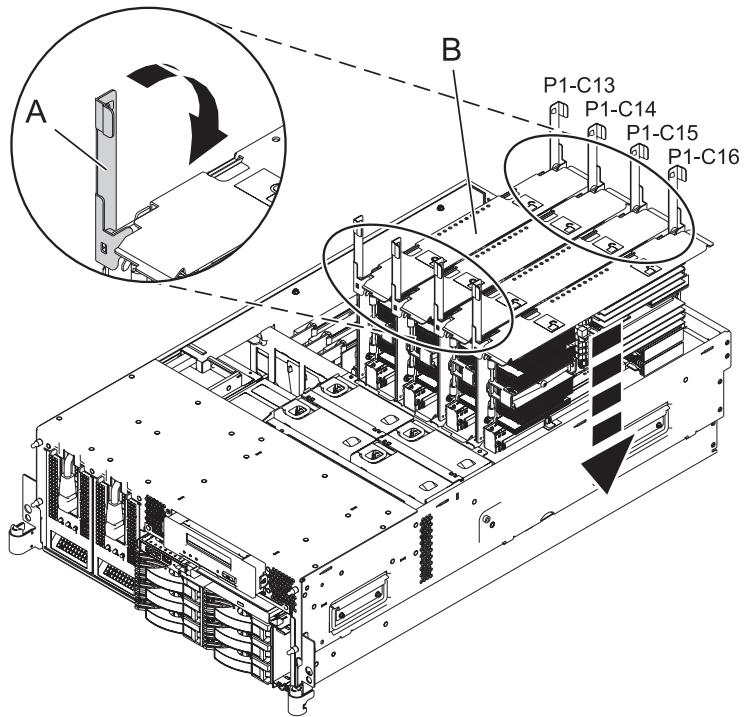
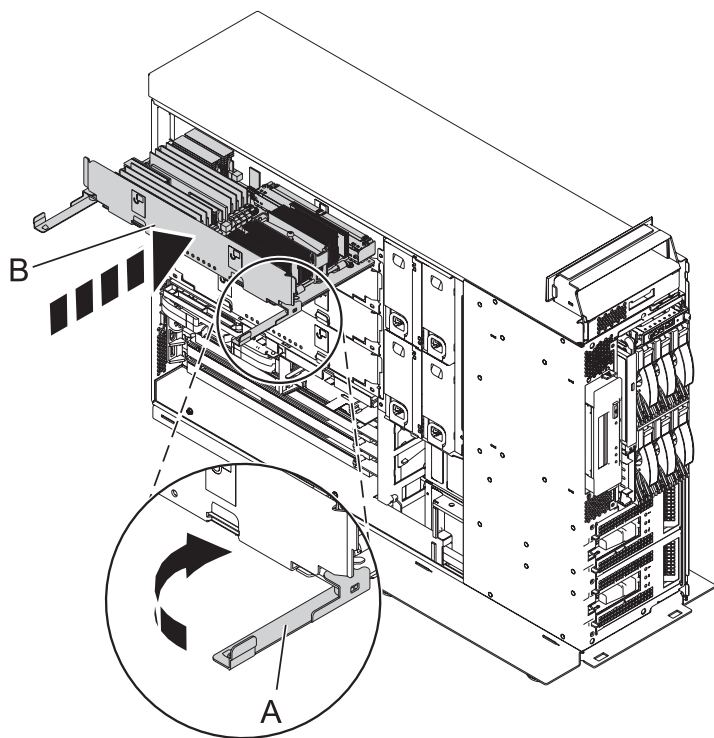

Figure 3. Installing the system processor in a rack-mounted system
Figure 4. Installing the system processor assembly in a stand-alone system
10. With the latches (A) in the unlocked position, place the system processor assembly (B) into the system as shown in Figure 3 and Figure 4 on page 6.
11. Move the latch (A) in the direction of the arrow to lock the system processor assembly into position.